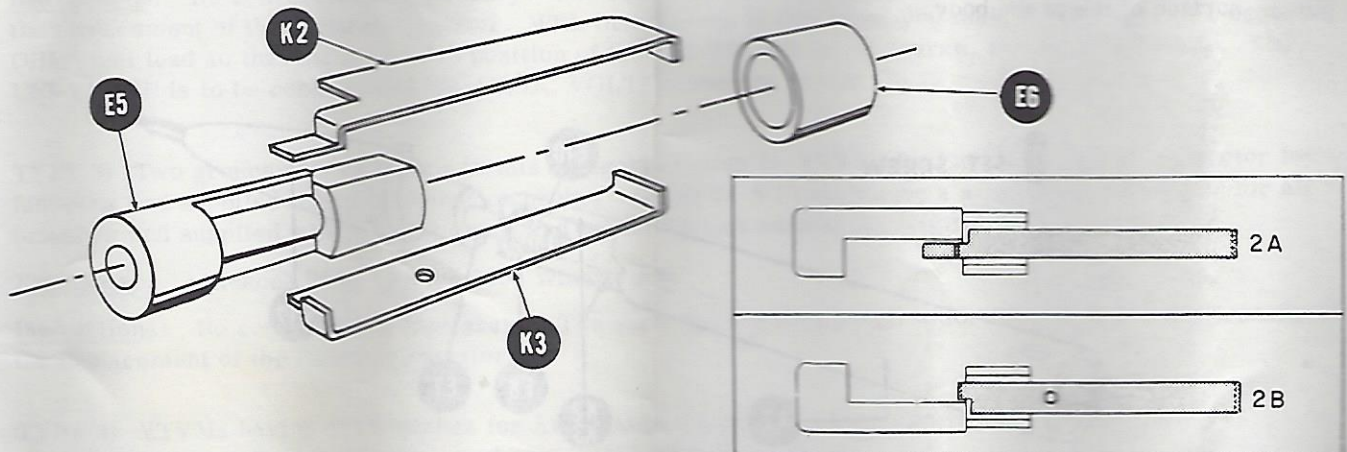

Figure 2
5. () Figure 2. Study the figure before proceeding with the assembly. Phosphor-bronze contacts K2 and K3 are formed differently and may not be interchanged from the relative positions shown in the drawing. K2 and K3 can most easily be differentiated by observing the small hole to be found in K3 but not in K2. Assemble as follows: Hold the black fiber contact holder E5 as shown in the figure. Lay K2 against the flat surface X of E5, position it as shown in Figure 2A, and hold it there. Then lay K3 against the parallel flat surface of E5 underneath, position it as shown in Figure 2B, and hold K3 in place also. Next catch the free ends of K2 and K3 in the large diameter fiber tube E6, then move E6 down over K2 and K3 to pin them against the flat surfaces of E5. This is a fairly tight fit and some force is required. E6 should finally rest against the shoulder of E5 past which it can not be moved.